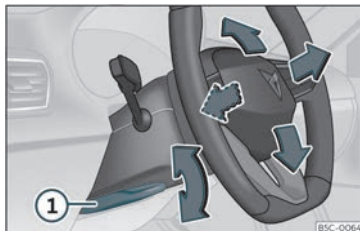

Fig. 4 Lever in the lower left side of the steering column.
- Pull the  **Fig. 4**  lever down, move the steering wheel to the desired position and lift the lever back up until it locks.
- After adjusting the steering column, push the lever  **Fig. 4**  firmly upwards to ensure the steering wheel does not accidentally change position while driving.